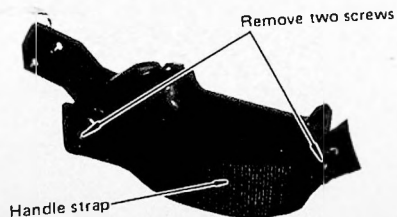

Fig. 8-3
- Remove the two screws which hold the handle strap. (Fig. 8-3)